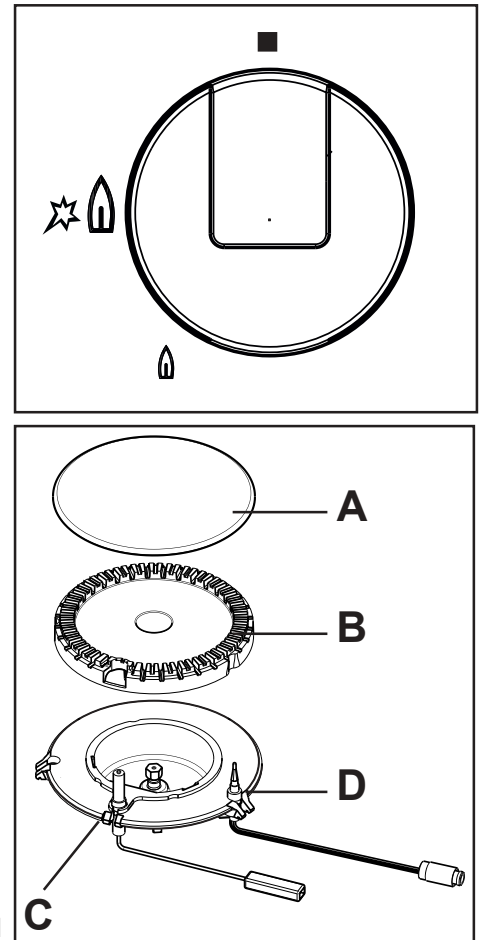

Fig. 1
2. After lighting the flame, keep the knob pushed down for about 5 seconds. This will allow the "thermocouple" (Fig. 1, lett. D) to be heated and the safety device to be switched off, otherwise the gas supply would be interrupted.
i If you cannot light the flame even after several attempts, check the "cap" (Fig. 1, lett. A) and the "crown" (Fig. 1, lett. B) are in the correct position.